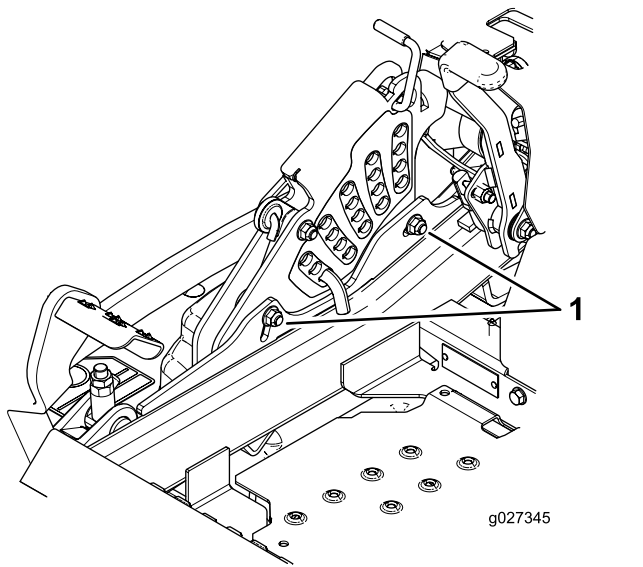

Figure 94
12. To adjust the single point system, loosen the 2 bolts at the bottom of the height-of-cut plate (Figure 94).
14. Tighten the 2 bolts at the bottom of the height-of-cut plate (Figure 94).